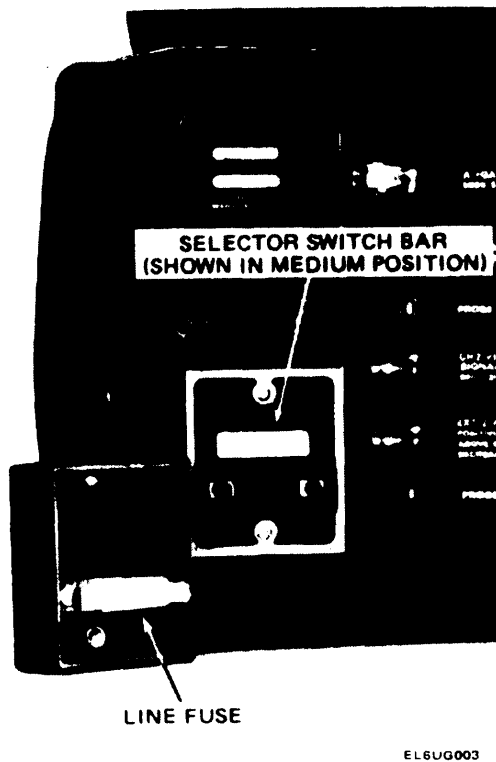

Fig. 2-1. Regulating Range Selector and Line Fuse.
Power Requirements. The oscilloscope is designed to be operated from either a 115-volt nominal or 230-volt nominal line voltage source. In addition, one of three operating ranges may be selected around each nominal line voltage. The voltage selector jumper on the rear panel (figure 2-1) allows selection of the operating voltage. With option 07 installed, the oscilloscope may be operated from either a 12 vdc or 24 vdc power source.
5. Check Table 2-1 for the recommended range position of the Range Selector Switch Bar (see Figure 2-1). Select a range which is centered about the average line voltage to which the instrument is to be connected. The middle position ("M") is a typical setting.